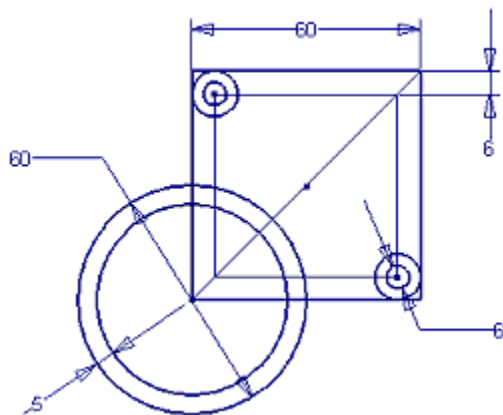

Figure 22: Completed sketch.
4. Sketch a circle centered on the lower-left corner of the outer rectangle (see Figure 22).
5. Use the Offset tool to offset the two small circles and the large circle as shown in Figure 22.